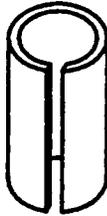

Figure 61—KS-16604 Insulator
6.19 Insulator KS-16604 (Figure 61) is designed to insulate and protect circuits with wire-wrapped terminals. The insulator is made of fire-retardant red plastic, slotted to allow clearance for bridged terminations. It is available in three sizes to cover all lengths of terminals (Table U).